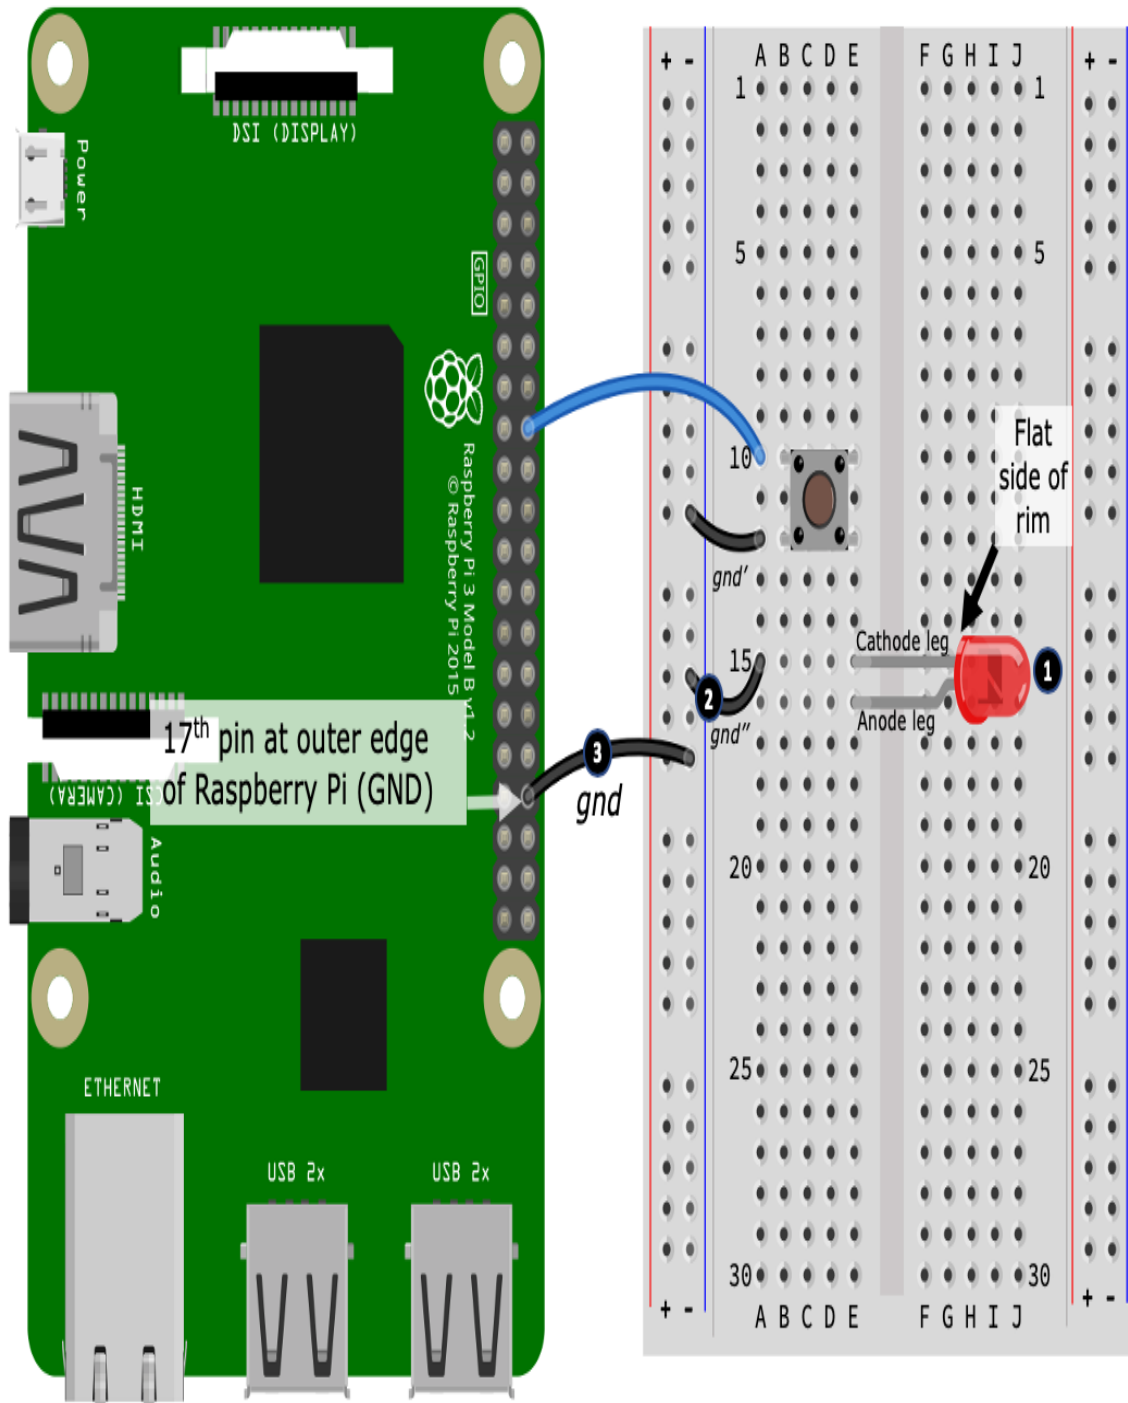

Figure 2.5 – Connecting the LED
*Figure 2.5* the LED connection we are about to create. Please refer to this diagram as you follow the forthcoming steps:
Here is how to connect the LED into your breadboard and connect it to your Raspberry Pi. The following step numbers match the numbered black circles in *Figure 2.5* :